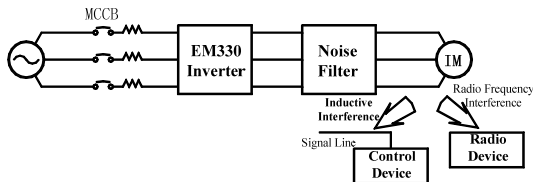

Figure 3-7 Installing a Noise Filter on the Output Side
- See Figure 3-7 for installing a noise filter on the output side.